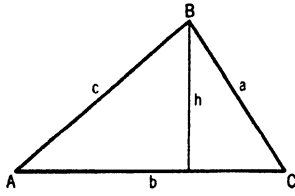

FIG. 259 OBLIQUE TRIANGLE
We shall use the expression *oblique triangle* in referring to a triangle that is not a right triangle. Using the notation of Fig. 259 *Sine and cosine laws*
Using the notation of Fig. 259 we let
9. Solve the oblique triangle of Fig. 259, where $a = 13.5$, $b = 14.7$, $c = 16.8$.
10. Solve the oblique triangle of Fig. 259, where $B = 37^\circ 14.1'$, $a = 138$, $c = 176$.